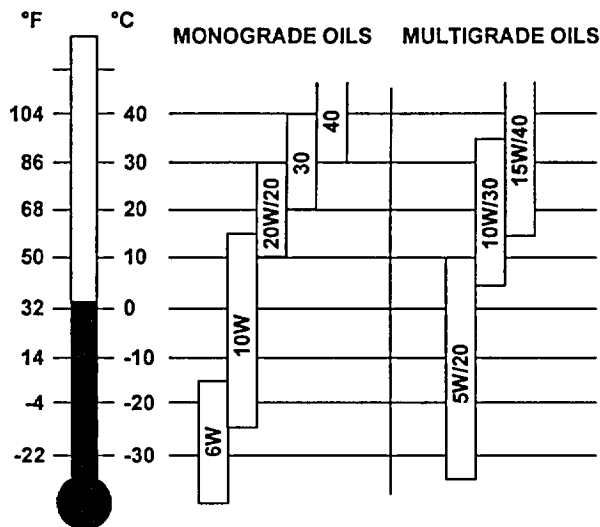
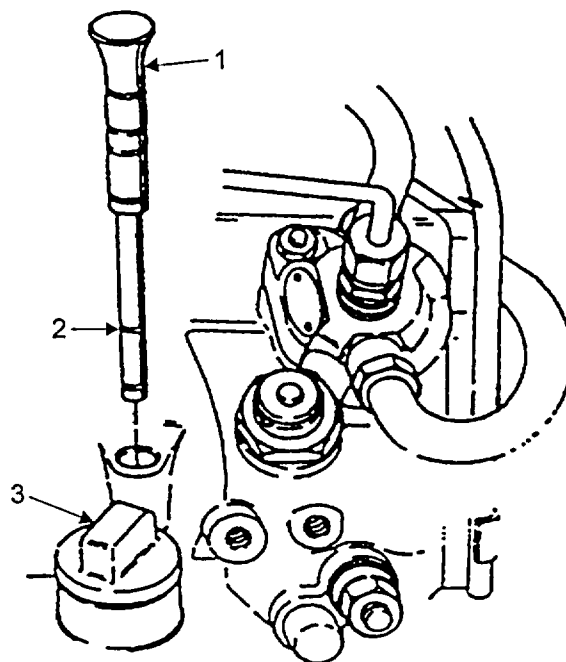

Figure 3-1. Recommended Viscosities
FIGURE 3-2. ENGINE OIL FILL
The viscosity of oil is greatly influenced by ambient temperatures at the site of operation. Figure 3-1 shows the viscosity of oil recommended for use in the model CAPITANO-PD. When ambient temperatures fall below the limit of the oil selected, the starting performance of the compressor unit will be affected, but no equipment damage will be caused. Since a too viscous oil can cause starting difficulties, the choice of viscosity grades during winter operation should be governed by the ambient temperature prevailing at the time of engine starting. Oil changes resulting from ambient temperature changes can be avoided by using multigrade oils. All viscosities are subject to oil change intervals recommended in Table 2-2.
- h. Remove the engine oil fill cap (3) Figure 3-2.
- a. With engine level, check oil level. Remove oil dipstick (Figure 3-2, Item 1) and wipe with a lint free cloth. Insert oil dipstick all the way into engine Withdraw dipstick. Engine oil should coat dipstick to top mark (2) (max.).
- b. If oil coating is below top mark, remove oil cap (3) and fill with oil of proper viscosity as required.
- c. Select an oil viscosity grade to suit ambient temperature using Figure 3-1.